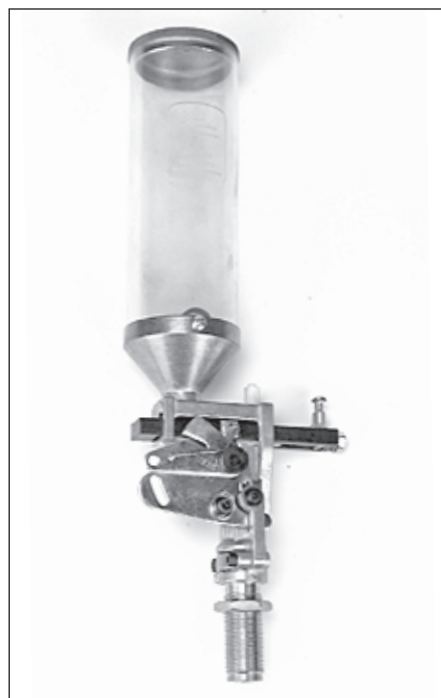

FIG 85
E. Station 2 – Installation of powder measure assembly FIG 85: